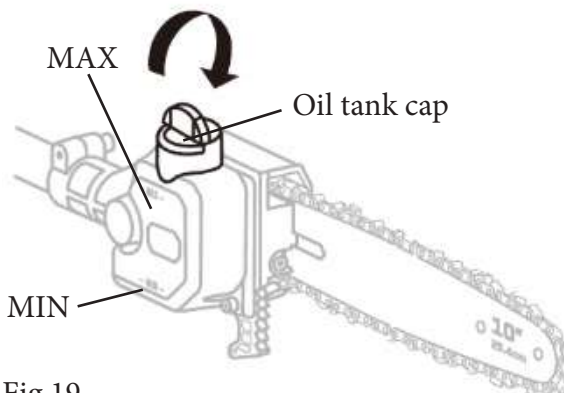

Fig.19
- Fill the oil tank with chain oil. The oil level should be above "MIN" limit and below the "MAX" limit. (Fig.19)